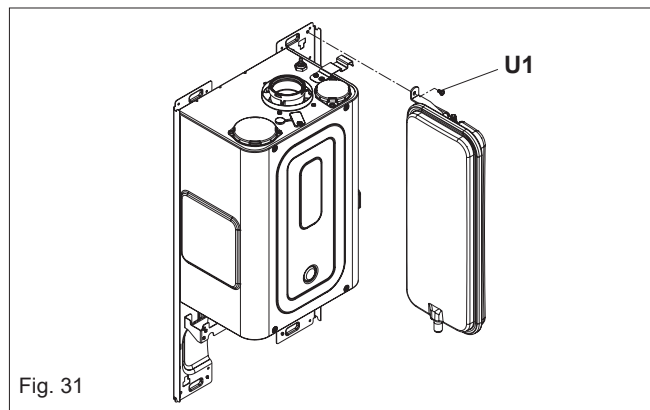

Fig. 31
6.18 EXPANSION VESSEL REMOVAL (fig. 31)